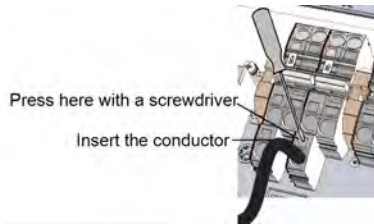

Figure 24: DC Spring-clamp terminals
- c. Insert the wire into the top opening (see *Figure 24*).